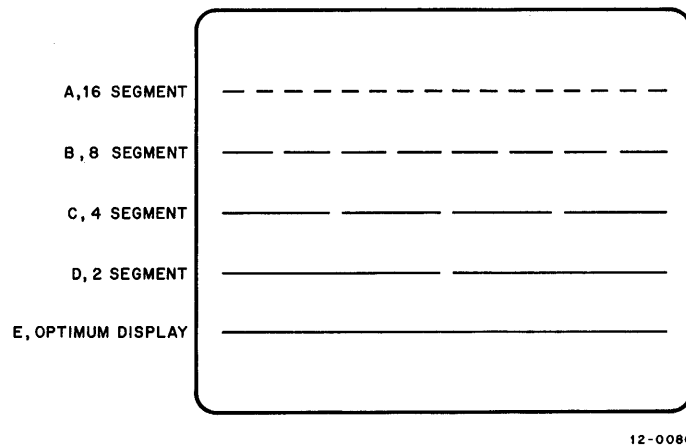
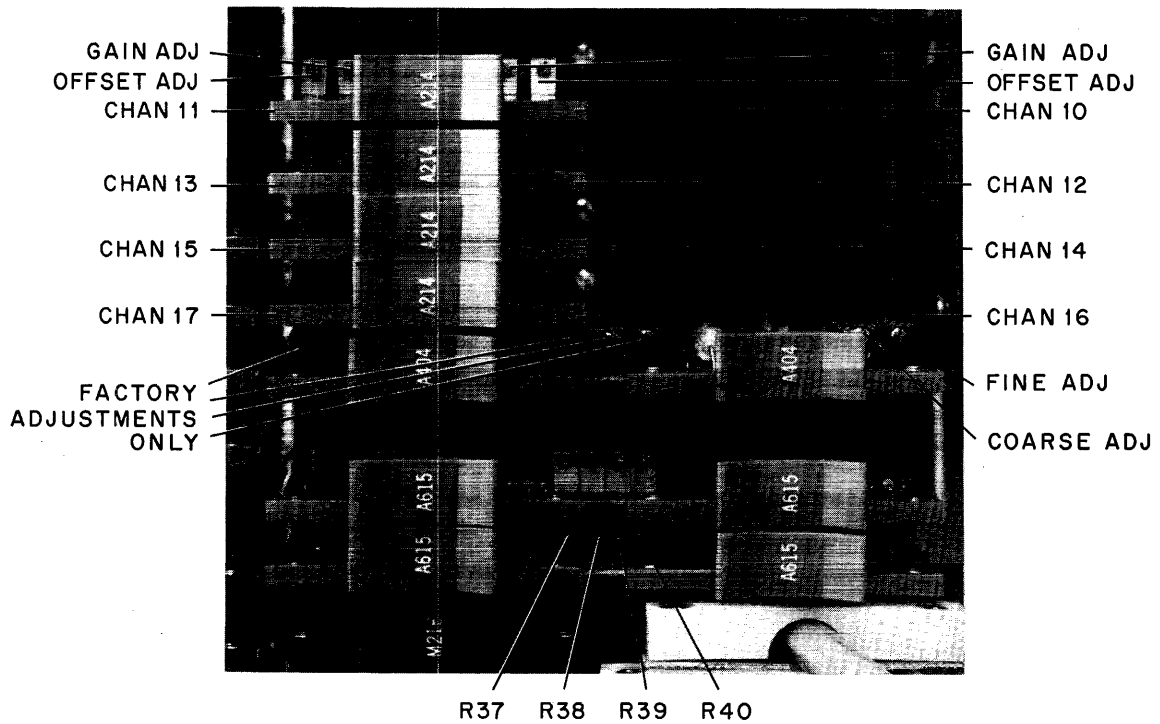

Figure 3-20 D/A Line Display
Figure 3-21 Sample and Hold Adjustments
7	A straight line will be displayed. If the line is of uniform brightness and continues from one side of the screen to the other without gaps, refer to Step 2 of this procedure. If the line displayed appears as E of Figure 3-20, refer to Step 1 of Adjustment Procedure, Paragraph 3.8.2.
The four most significant bits of Module A615, Digital-to-Analog Converter, are adjustable (R37 through R40 in Figure 3-21); bit 3 being the most significant, and bit 6 being the least significant. A misadjusted A615 displays a line either with gaps or overlays, or a combination of both. Figure 3-20 provides an example of all four significant bits being set too short. Data bit 3, being too short, divides the line into two equal halves (D). Data bit 5 divides the line into 8 segments (B) and, likewise, bit 6 divides the line into 16 equal segments (A).
| 1           | The A615 is adjusted, starting with bit 6, the least significant bit, and adjusting toward the most significant bit, bit 3. Note the 16 segments of A of Figure 3-20. Adjust potentiometer R37 of Module A615, locations E and F37 (bottom of A615), until only eight segments are displayed as shown in B of Figure 3-20. |
| 2           | Adjust potentiometer R38 until only four segments are displayed, as shown in C of Figure 3-20.   |
| 3           | Adjust potentiometer R39 until only two segments are displayed, as shown in D of Figure 3-20.  |
Do not adjust any other controls except those specifically mentioned in Paragraph 3.8.7 and shown in Figure 3-21. If compensating trimpots located on Module A404 are disturbed, the module must be returned to DEC for proper calibration.
7	While monitoring Channel 17, adjust the COARSE ADJ (see Figure 3-21) Module A404 (locations E and F34) until Channel 17 displays 000 (see Figure 3-21). Then adjust the FINE ADJ until the sign of the Channel 17 000 display oscillates between + and -. This oscillation indicates proper adjustment.
5	Monitor Channel 10, and adjust the right OFFSET potentiometer of Module A214, at location E30, for a -000. Turning the trimpot (shown in Figure 3-21) CCW increases the number.